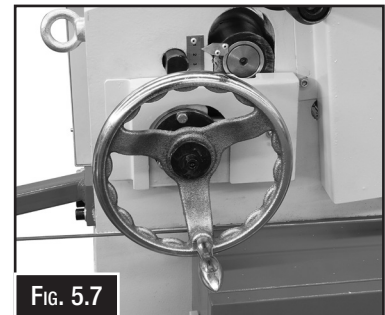

FIG. 5.7
- Place the steel plate in the machine and adjust the clamping roller using the hand wheel (Fig. 5.7) to suit the plate thickness.